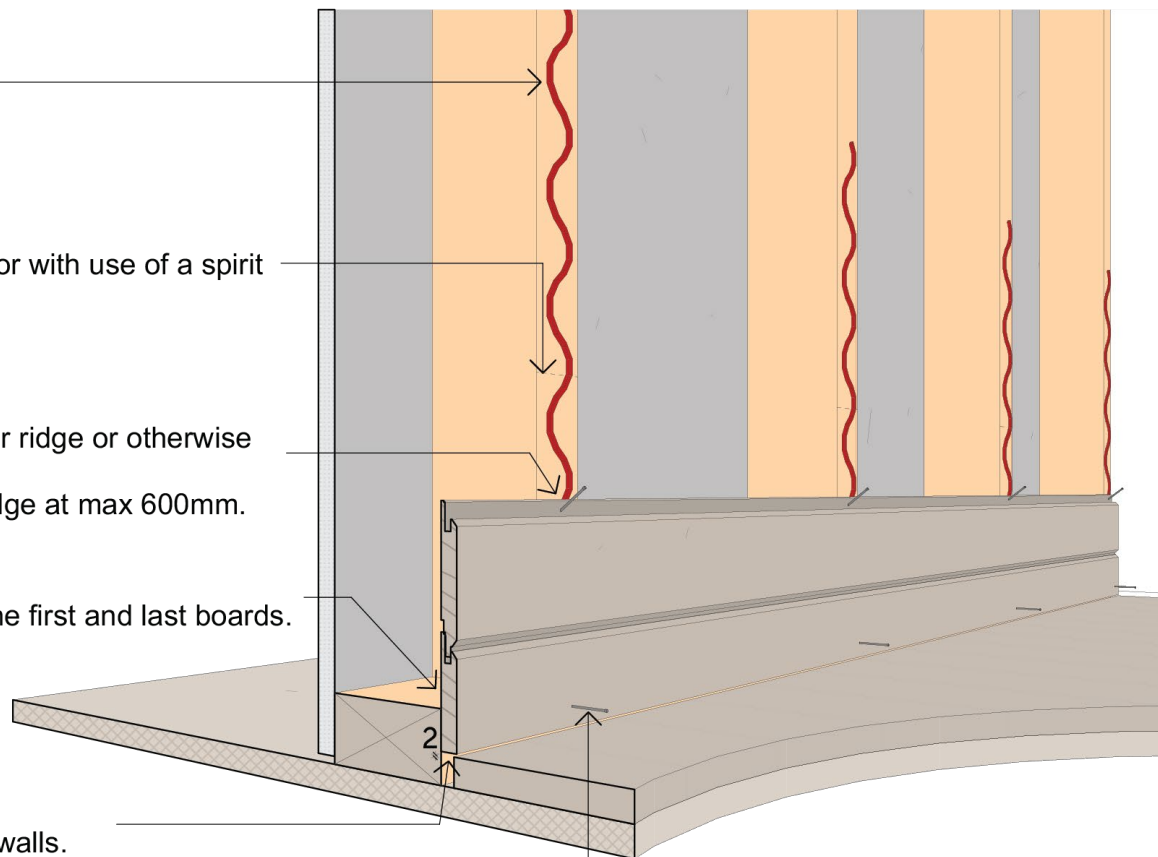

Figure 6 - Horizontal on OSB
- i. On plasterboard/solid walls: apply an “S” bead to back of each board (*see figure 6*)
- i. On plasterboard/solid walls: apply an “S” bead to back of each board (*see figure 6*).